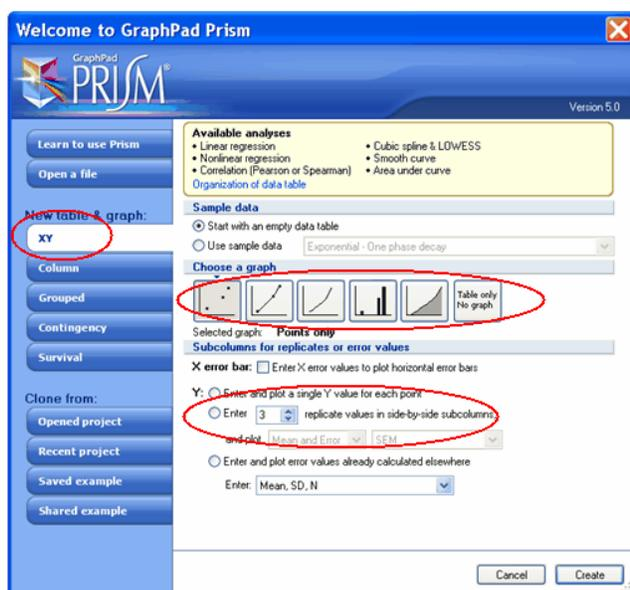

Figure 1.
2. Select the option labeled **XY** under the tab **NEW TABLE AND GRAPH**. See **Figure 1** as an example.
- Under **SUBCOLUMNS FOR REPLICATES OR ERROR VALUES**, select the second option using **Figure 1** as an example. Select the number of replicates according to the number used in the specific experiment.